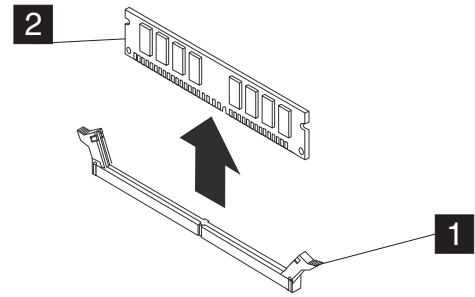

Figure 11. Memory-module retainer clips in the open position.
3. Rotate the memory-module-retainer clips **1** to the open position. The memory module is disengaged from the memory connector. See Figure 11.
4. Lift the memory module **2** straight up to remove it from the memory connector. See Figure 11.